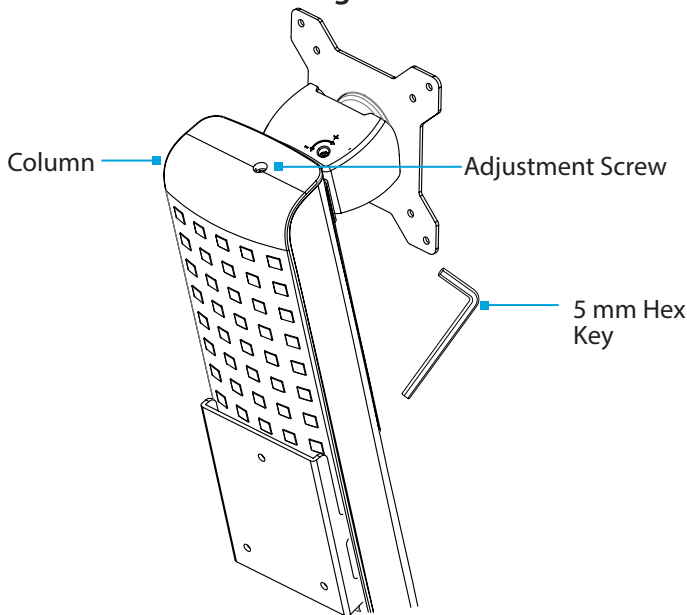

Figure 26
- If the **Monitor** doesn't remain in the set position, or it's difficult to raise or lower) use the **5 mm Hex Key** to turn the **Screw**, located in the top of the **Column**, to adjust the tension of the **One-Touch Height Adjustment Spring**. (Figure 26)